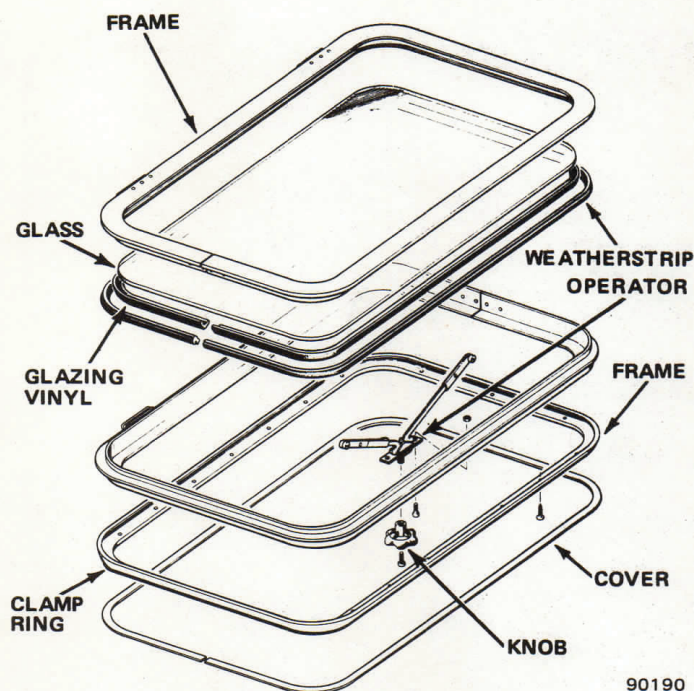

Fig. 14-21 Sun Roof Components—CJ-7 Models
- (1) Remove glass and aluminum frame assembly (fig. 14-21) from vehicle and place upside down on clean work bench.